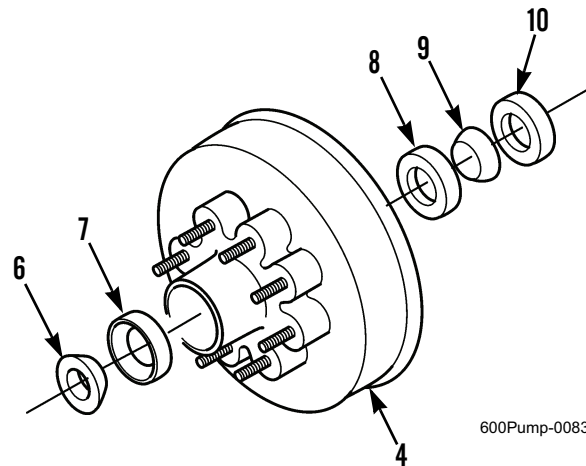

Figure 4. Hub/Drum Seal, Bearings, and Races.
1. If removed, install new bearing races (Figure 4, Items 7 and 8) in hub/drum (Figure 4, Item 4). Lightly coat outer surfaces of bearing races with GAA grease.
2. Pack inner and outer bearings (Figure 4, Items 9 and 6) with GAA grease by pressing fresh grease into bearing roller area.
3. Install inner bearing (Figure 4, Item 9) in hub/drum (Figure 4, Item 4).
4. Lightly coat outer edge of new seal (Figure 4, Item 10) with GAA grease and install new seal in hub/drum (Figure 4, Item 4). Wipe excess grease from outer surface of seal.